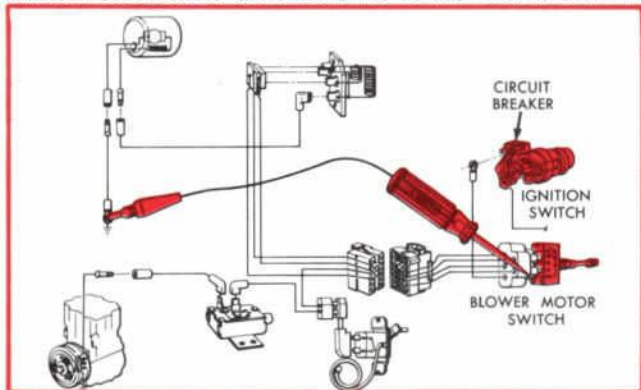

Figure 21—Testing Blower Switch
7. The final test of the clutch circuit is to move the probe to the circuit breaker terminal (Fig. 21). The circuit breaker is usually mounted on the accessory terminal of the ignition switch. Test for power output through the breaker and through the switch. If either isn't passing current, replace as required.